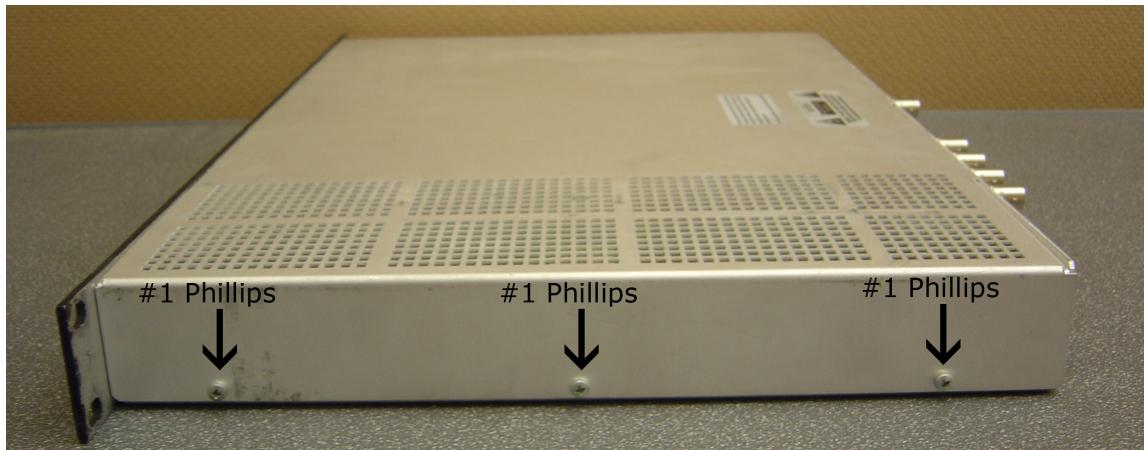

Figure 4 DP563 Side Screw Locations
3. Remove the three Phillips-head screws in each side. Figure 4 shows the screws in one side.